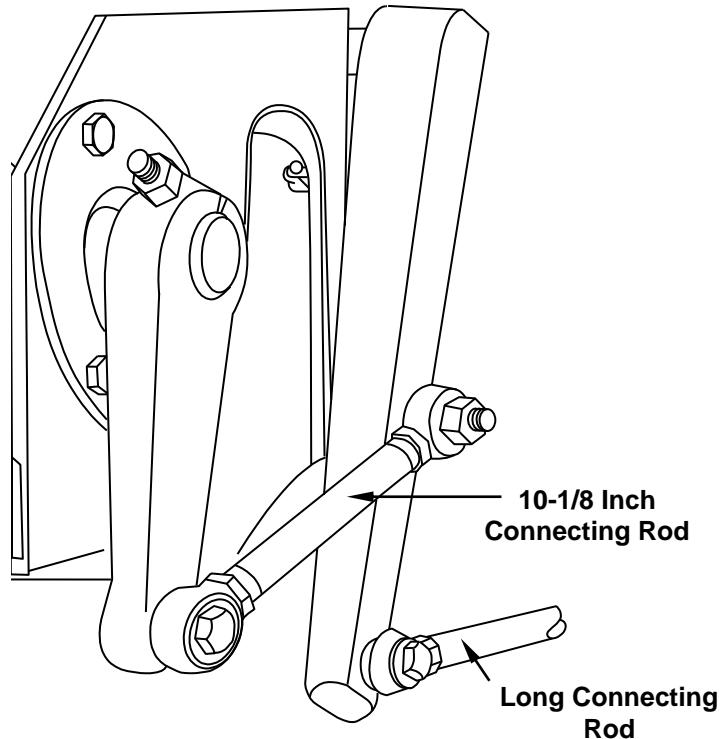

Figure 4.2-25
- a. Adjust the short connecting rod (see Figure 4.2-25) to obtain a starting length of 10-1/8 inches center to center between the rod end openings. Tighten the jam nuts.